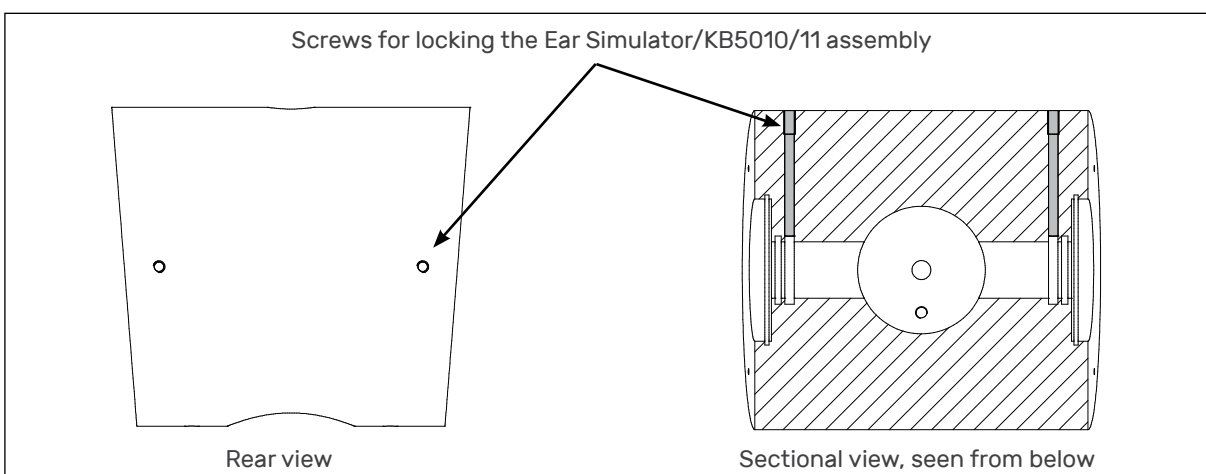

Fig. 7. Showing the screws for locking the ear simulator (RA0045 or High Resolution Ear Simulator)
1. Slacken the screw holding the Ear Simulator, see Fig. 7.
1. Loosen the screw holding the ear simulator, see Fig. 7 on page 22.
1. Release the two grub screws on the side of the test fixture, see Fig. 7 on page 22. The screw must be loosened to fully release its pressure on the ear simulator. Removing the cover plate will make removal of the ear simulator easier.